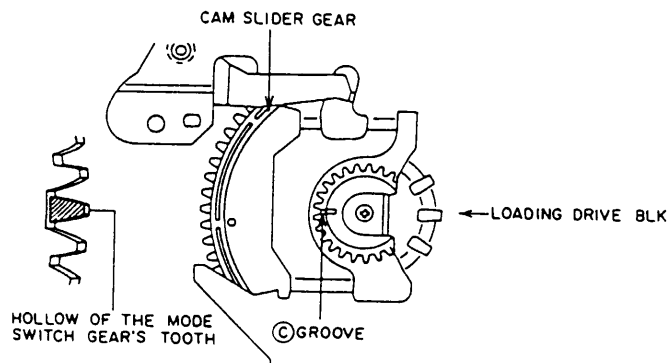

Fig. 3-15
- 2) Attach the MODE SELECT SWITCH to the LOADING DRIVE BLK. At this time, align the hollow of the gear's tooth (reverse side of the ③ mark) with the ③ groove of the CAM SLIDER GEAR as shown in Fig. 3-15.